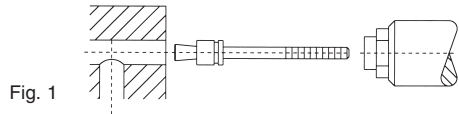

Fig. 1
1. Insert the plug in the tool, making sure that the sleeve is against the nosepiece. (Fig. 1)